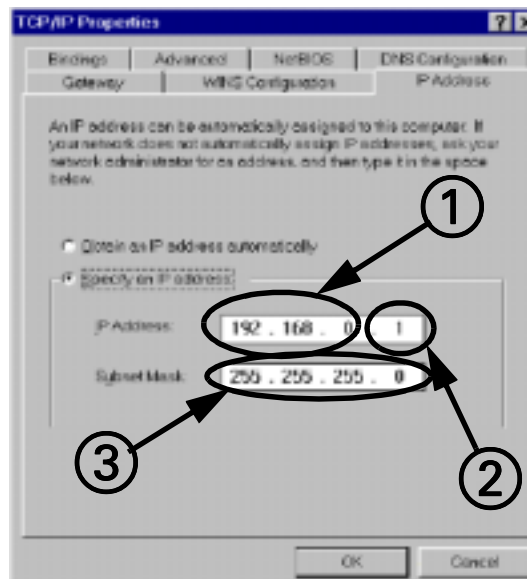

Figure 14-5 TCP/IP Window
7. Type first 3 sets of digits (① in Figure 14-5) from Hospital LAN Adapter (Network Adapter 1) IP Address settings. See Table 6-4 on page 6.
8. Type number between 1-255 that does NOT match same number given in Table 6-4, in last IP address box (② in Figure 14-5).
9. Type same numbers as they appear in Hospital LAN Adapter (Network Adapter 1) settings in Table 6-4, in Subnet Mask box (③ in Figure 14-5).